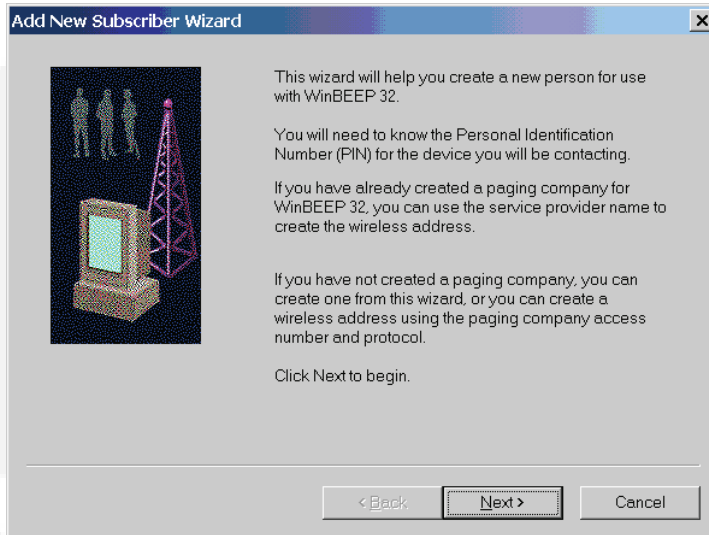

FIGURE 15-18. NEW SUBSCRIBER WIZARD
1. Select **File–New Subscriber** from the menu bar to launch the New Subscriber Wizard. Click on the **Next** button to proceed. Figure 15-18.